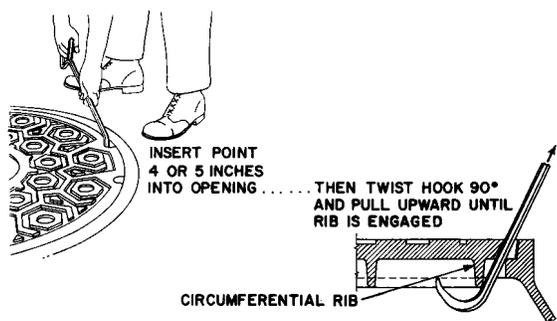

Fig. 1—Inserting Manhole Hook into Hook Hole
- (1) Insert the manhole hook into one of the hook holes with the shank in a position tangential to the cover (Fig. 1) until the hook end has cleared the rib on the underside of the cover. The hook can then be turned and raised to engage the rib (Fig. 2).